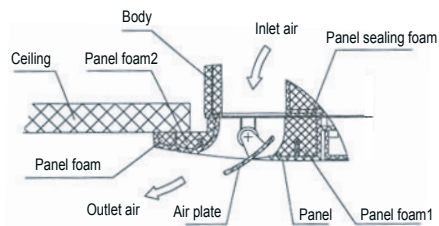

Fig.5-30
- Keep fastening the screws under the panel hooks, until the thickness of the sponge between the body and the panel's outlet has been reduced to about 4~6mm. The edge of the panel should contact with the ceiling well. (Refer to Fig.5-30)